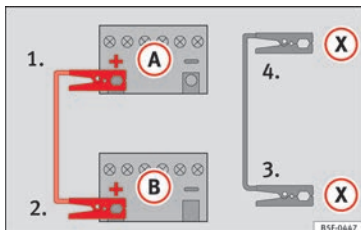

Fig. 130 Diagram of connections for vehicles with Start Stop system
- **For vehicles with Start-Stop system:** connect one end of the *black* jump lead (X) to a suitable ground terminal, to a solid piece of metal in the engine block, or to the engine block itself » » Fig. 130.
5. Connect the other end of the *black* jump lead (X) to a solid metal component bolted to the engine block or to the engine block itself of the vehicle with the flat battery. Do not connect it to a point near the battery (A).